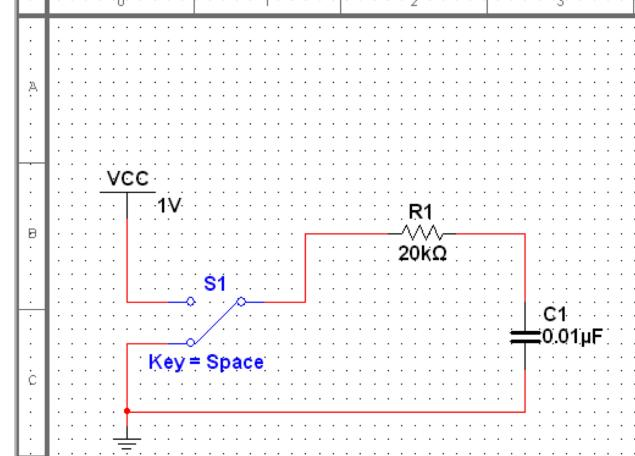

Figure 3: Wiring
15. Wires are added by placing the cursor on a terminal of a circuit element, where the cursor will change to cross hairs, clicking, and then clicking on the destination terminal. Your circuit should end up looking like Figure 3.